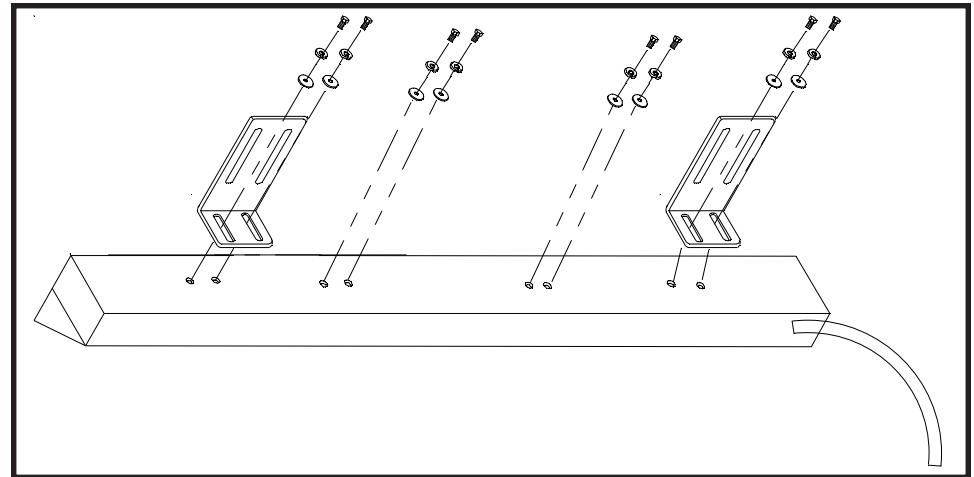

Figure 4
- 3) Turn the lightbar right side up and attach the Traffic Master to its mounting bracket as shown in Figure 4.